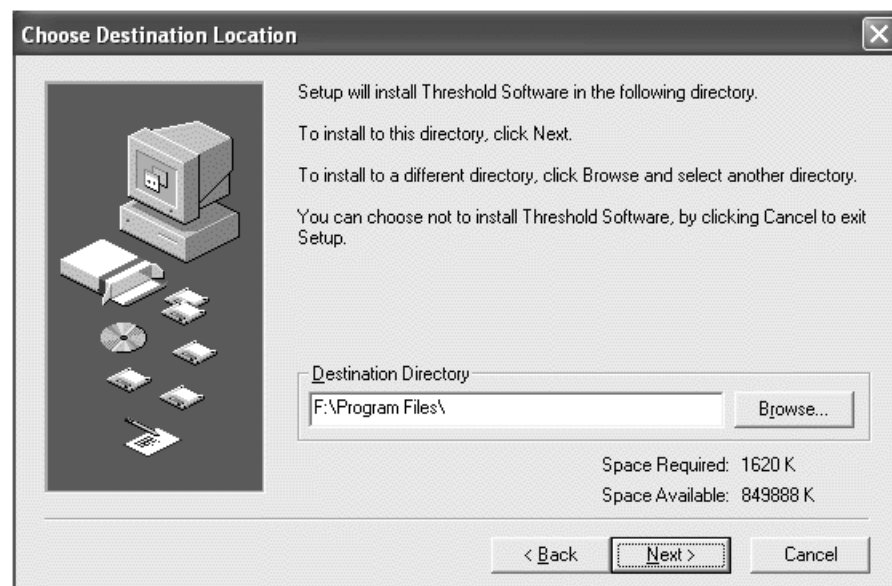

Figure E-3: Software Destination Screen
- 9) If you choose Yes, the **Choose Destination Location** screen opens (Figure E-3).